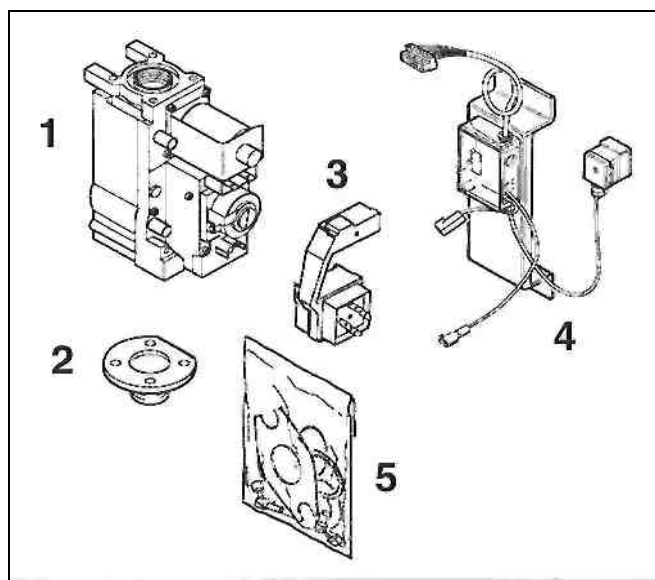
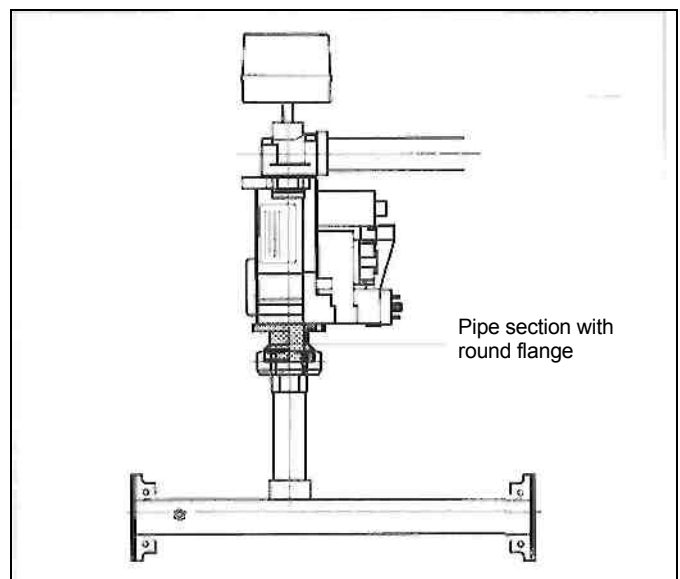

Fig. 2: Set 2
Fig. 6: G124 L with VR 4605 (Set 2)
- Install pipe section with round flange (Fig. 2, Pos. 2) between Gas valve and vertical gas connection pipe (Fig. 6). The straight side of the round flange must point towards the gas output side of the Gas valve.